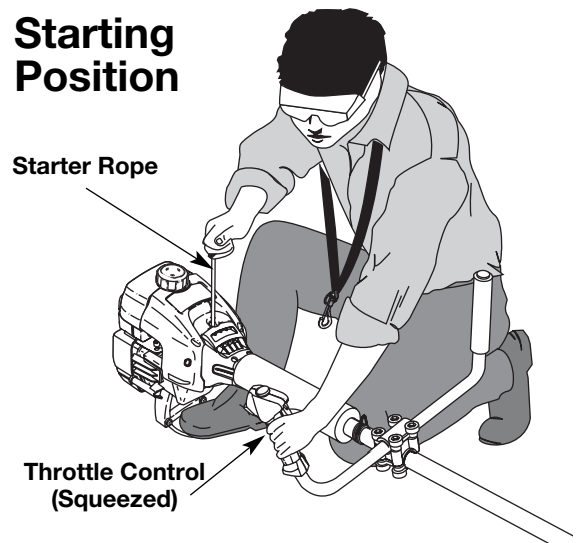

Fig. 17
WARNING: Avoid accidental starting. Make sure you are in the starting position when pulling the starter rope (Fig. 17). To avoid serious injury, both the operator and unit must be in a stable position while starting.
5. With the unit on the ground, place one foot on the metal foot stand to hold the unit in place (Fig. 17). Press the throttle lock-out while you squeeze the throttle control. Pull the starter rope up to 5 times.